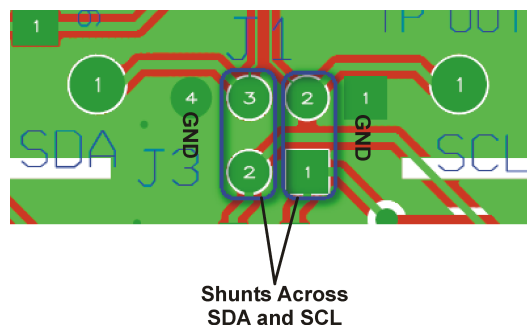

Figure 1. Place Shunts Horizontally Across SDA and SCL
4. Install shunts in J1 and J3 as shown in Figure 1. This sets the TPA2018D1 to accept I²C inputs from the EVM itself.